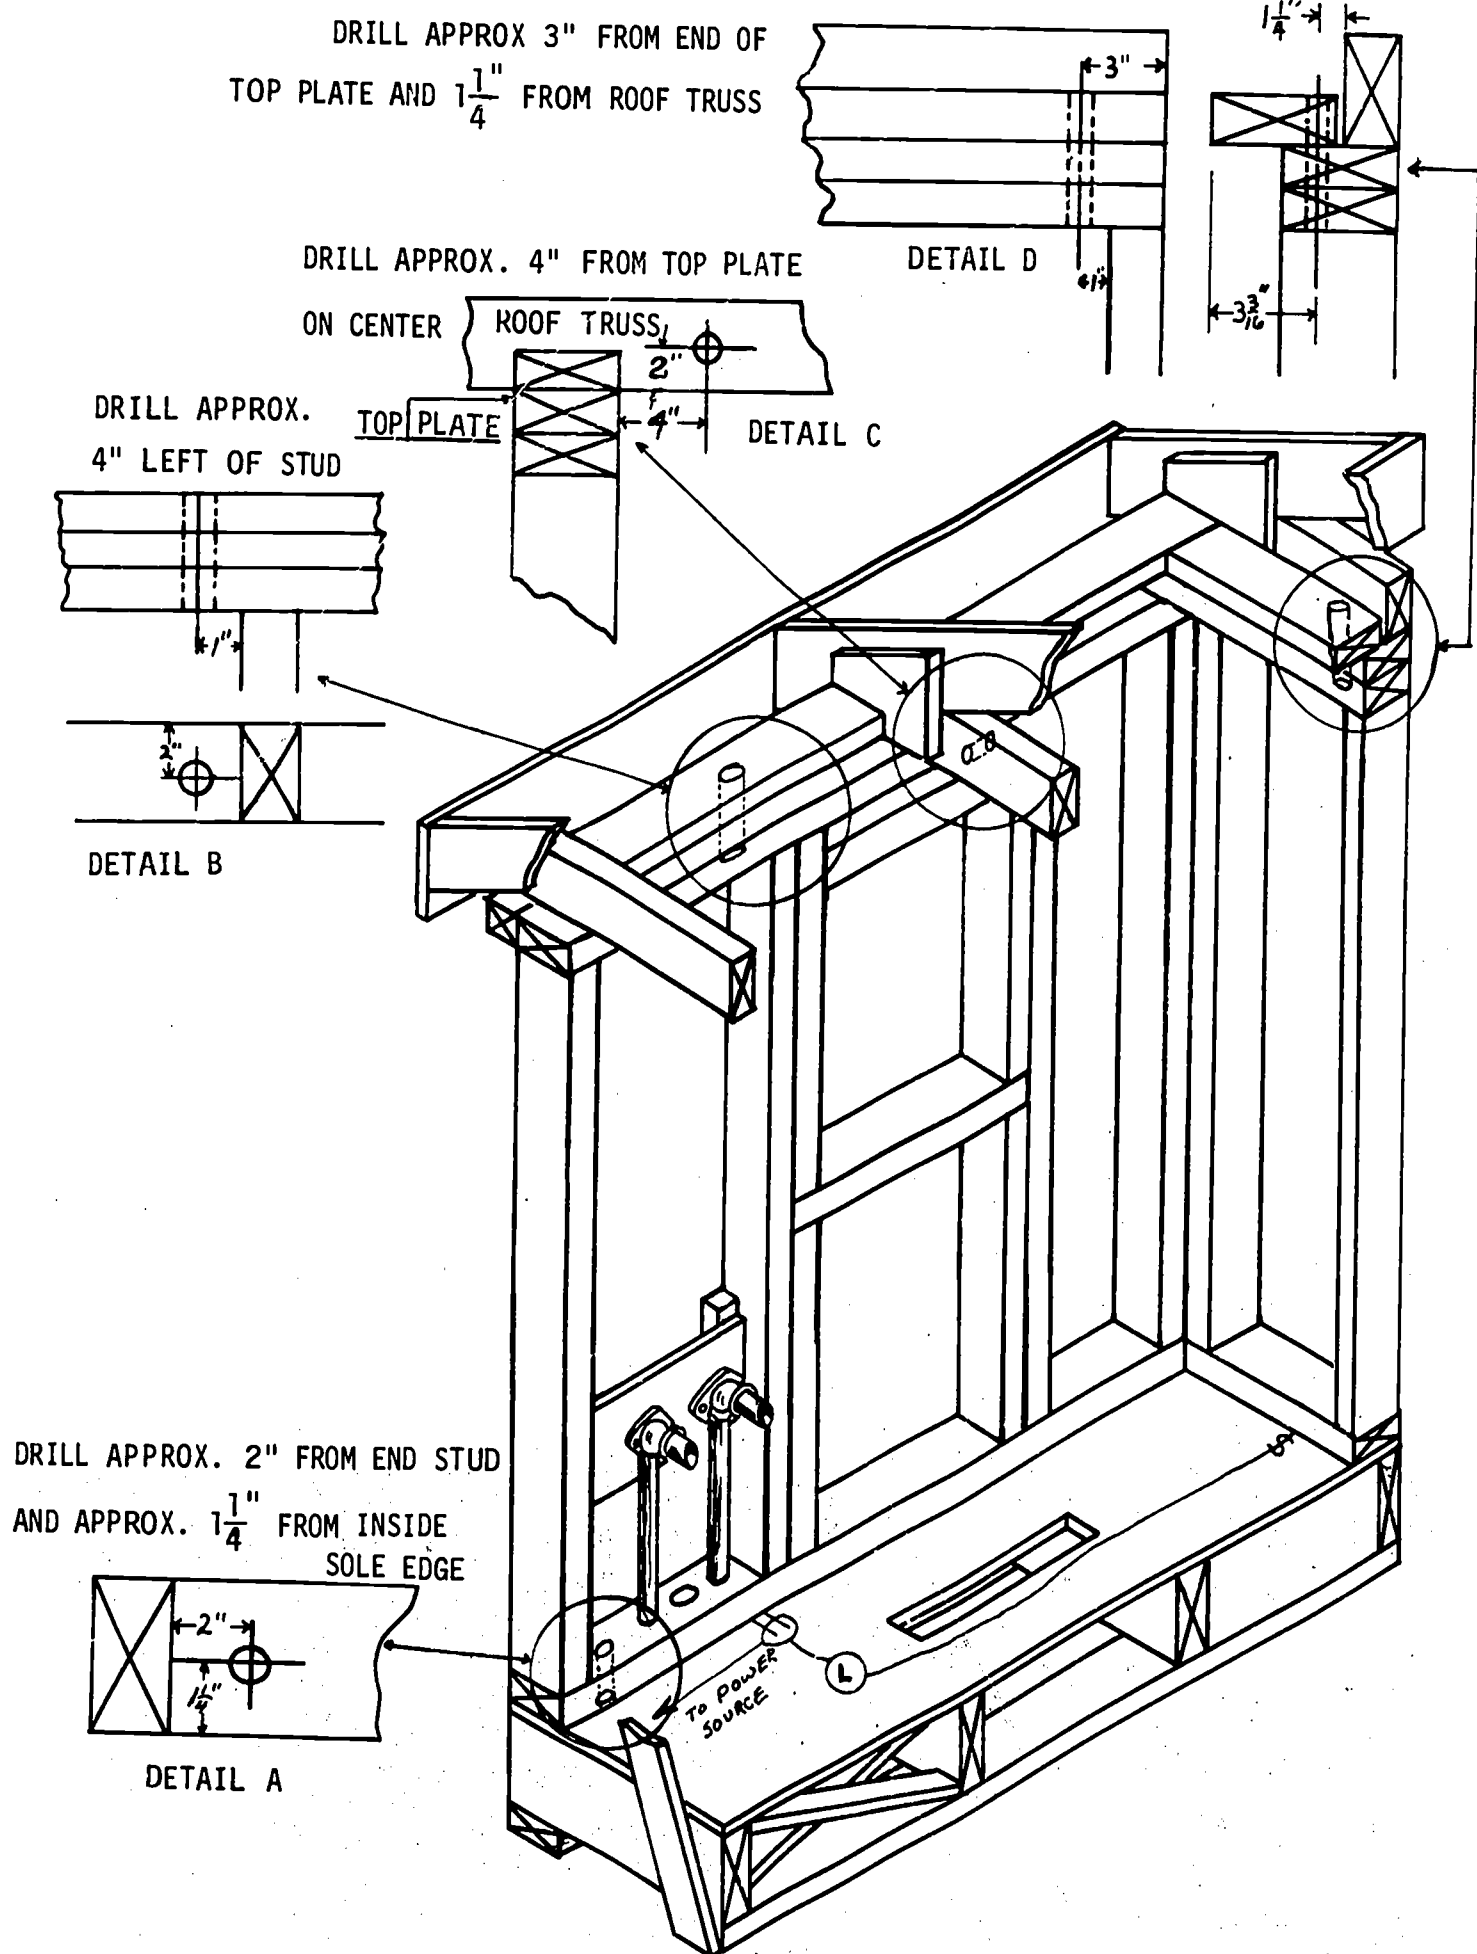

Fig. 52-2. Guide for Electrical Layout
3. Measure and mark hole centers according to details A, B, C, and D of Fig. 52-2.